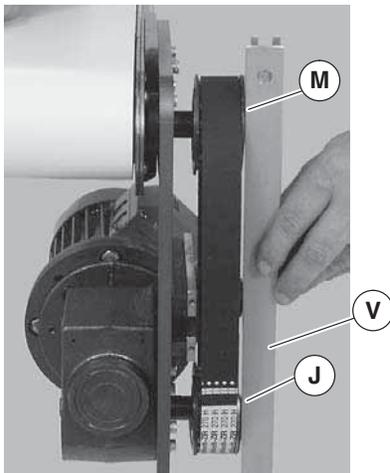
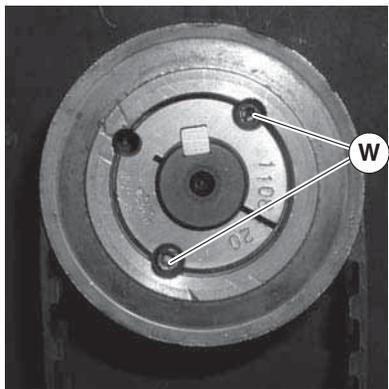

Figure 9
Figure 10
- Wrap timing belt (Q) around driven pulley (M) and drive pulley (J). Install driven pulley (M) onto conveyor shaft.
- Using a straight edge (Figure 9, item V), align driven pulley (M) with drive pulley (J). Tighten driven pulley taper-lock screws (Figure 10, item W).